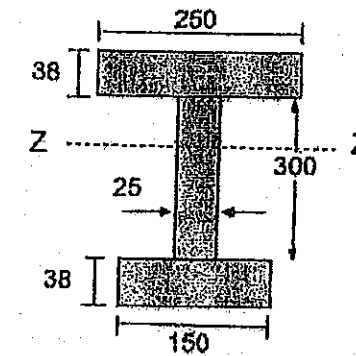

Figure Q. 14 (b)
- b) Find the plastic moment capacity about the Z-Z axis of the section shown in Figure Q.14 (b). (13)